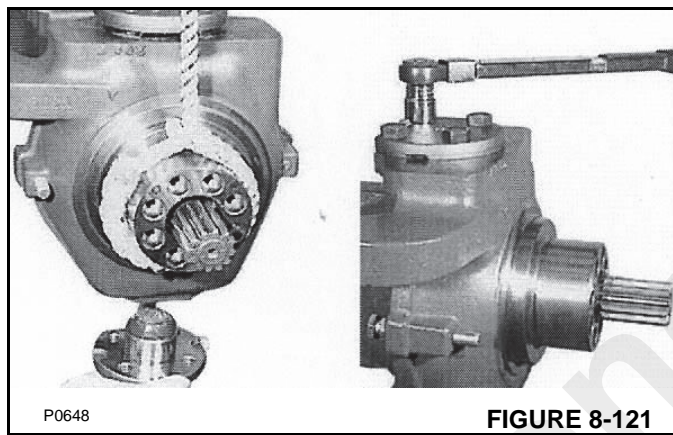

FIGURE 8-121
- Secure the swivel housing with a rope and hoist (Figure 8-121).